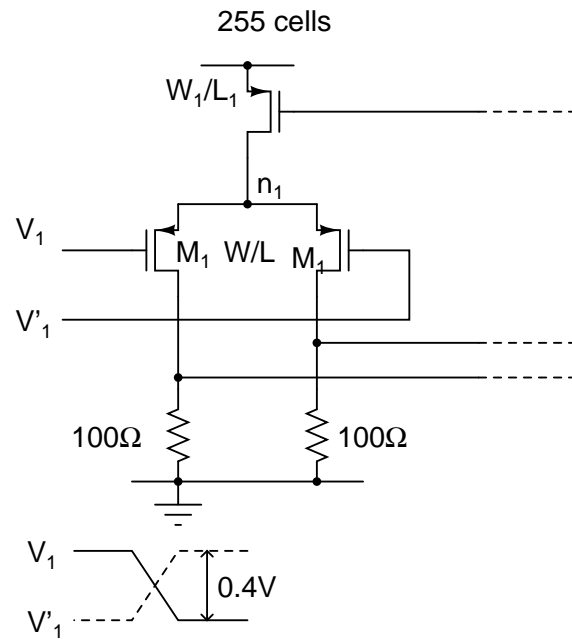

Figure 3:
4. A 8 bit DAC is built using the current steering cells shown in Fig. 3.